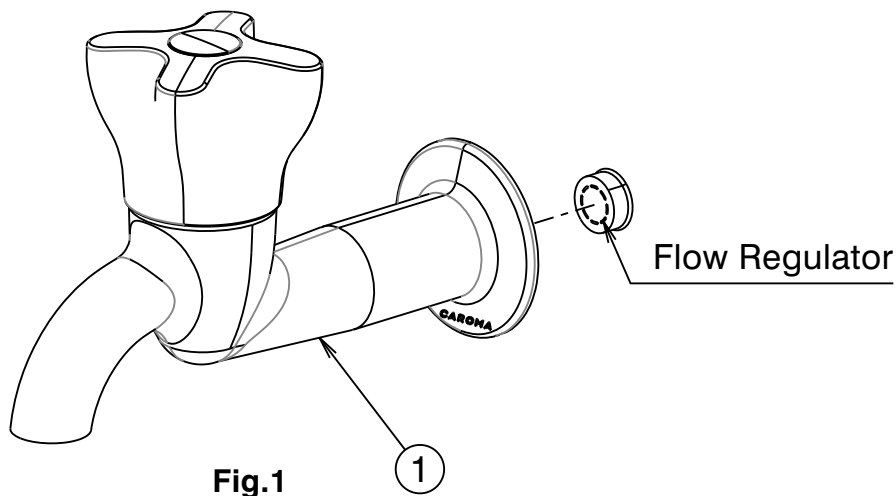

Fig.1
- * Body (1) is fitted with a flow regulator. This low flow rate may not be suitable for connection to some Instantaneous Gas Water Heaters, some Tempering Valves, some Solar Water Heaters & some Thermostatic Mixing Valves. Check with the manufacturers of these products. The flow regulator can be accessed as shown (Fig.1).